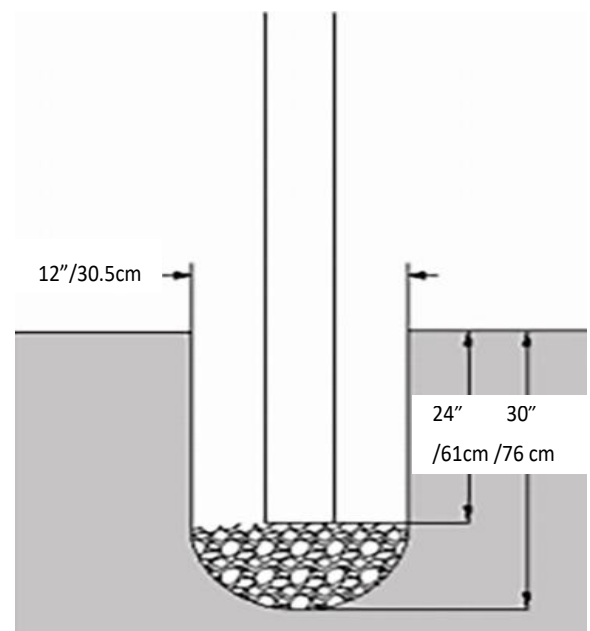

Fig. 4 Post Holes Dimensions
- Dig or auger post holes based on the dimensions of Fig. 4. Ensure the bottom of the post is set at exactly 24" below grade for the Ranch Rail style.